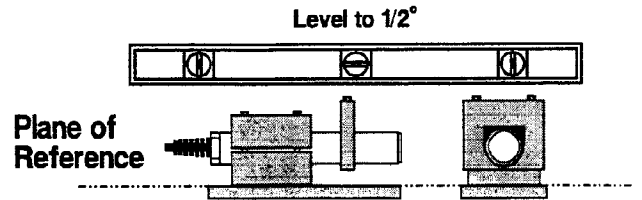

Figure 2-1. KIS Module Level Considerations
- (1) **Positioning:** On vertical tanks, bins, or hoppers, KIS Weigh Modules should be oriented to face radially inward or outward. For horizontal vessels, modules mount parallel to the longitudinal axis in opposing directions. Orienting modules as described provides a safe, checkless installation while allowing thermal expansion and contraction of the vessel.
- (2) **Mounting Base Surface Preparation:** The mounting base of the weigh module must be uniformly supported and level (Figure 2-1). On a structural steel support using through bolts, or a concrete pad using studs, the bolt spacing should be accurate to within 0.05 in. of the bolt pattern specified in the outline drawing dimensions (Figure 1-5). Grade 8.8 (or stronger) studs or bolts must be used. Do not weld the weigh modules in place.